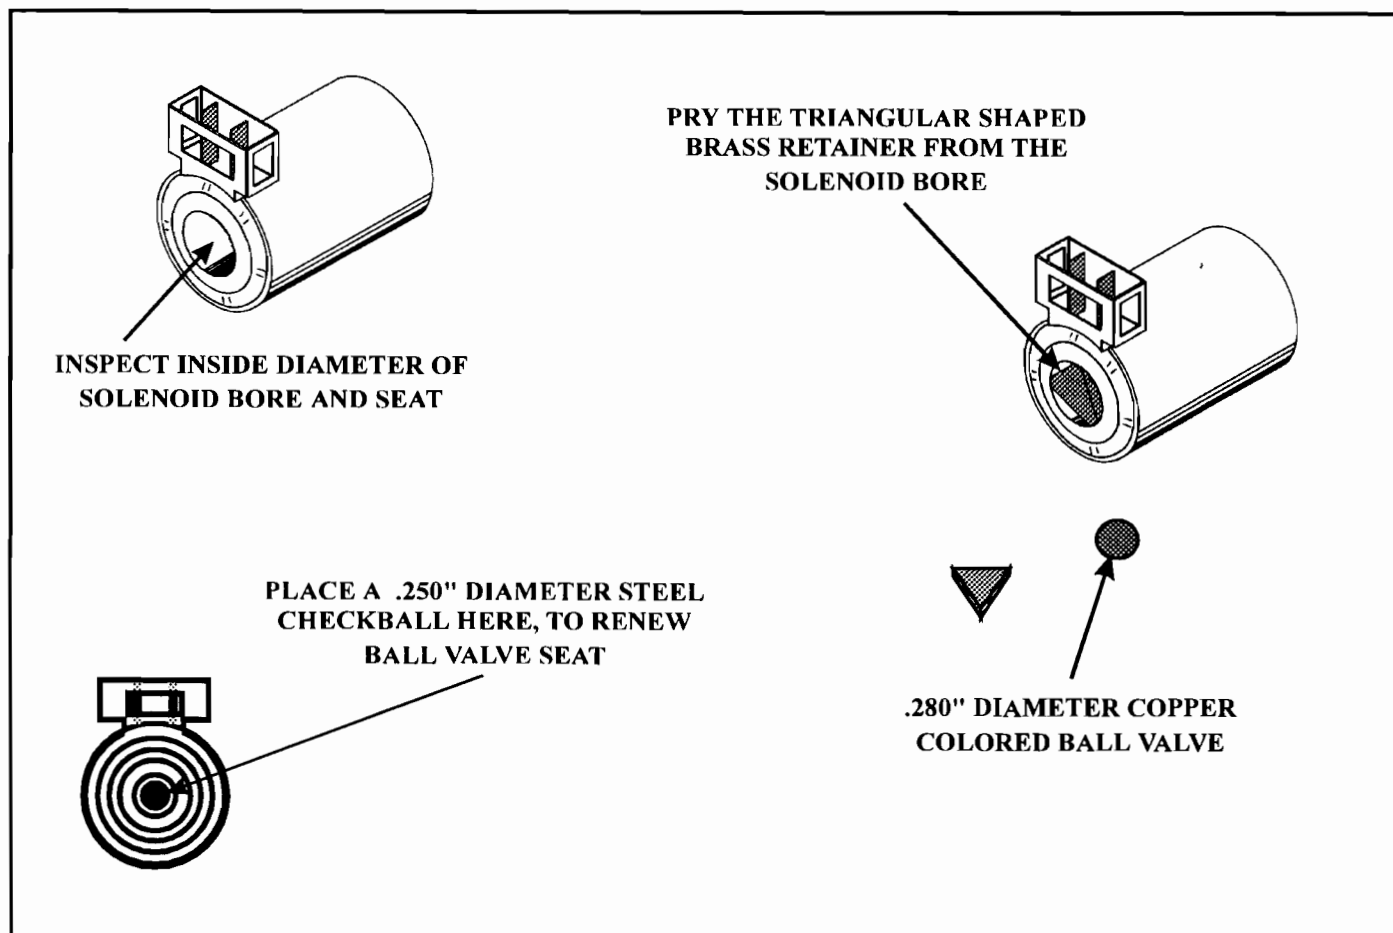

Figure 2
- (2) Place the solenoid on work area with the end that goes into the valve body facing down. Using a small screwdriver or scribe, carefully pry the triangular shaped brass retainer out of the solenoid bore (See Figure 2).
- (3) Remove the large .280" diameter ball from the solenoid (See Figure 2). Inspect the solenoid ball carefully. The ball should be completely smooth, with no pitted areas and no visible flat spots. Clean all debris as necessary.
- (4) Inspect the inside diameter of the solenoid bore for damage or scoring from the ball valve. Polish the inside bore with Scotch-brite®, as shown in Figure 2. If the solenoid bore cannot be polished smooth, the solenoid should be discarded.
- (5) Inspect the ball seat in the bottom of the solenoid bore for embedded debris and/or damage. If the seat is in good condition, place a steel .250" diameter ball onto the seat, with the solenoid resting *on* a vise, not in the jaws. Using a drift punch and a small hammer, lightly tap the steel checkball several times to "renew" the seat in the solenoid, allowing the ball valve to have a better seal.
- (6) Remove the steel checkball and re-install the .280" diameter, copper colored ball valve back into the solenoid bore. Gently press the triangular shaped brass retainer into the solenoid, and gently stake in place (See Figure 2).